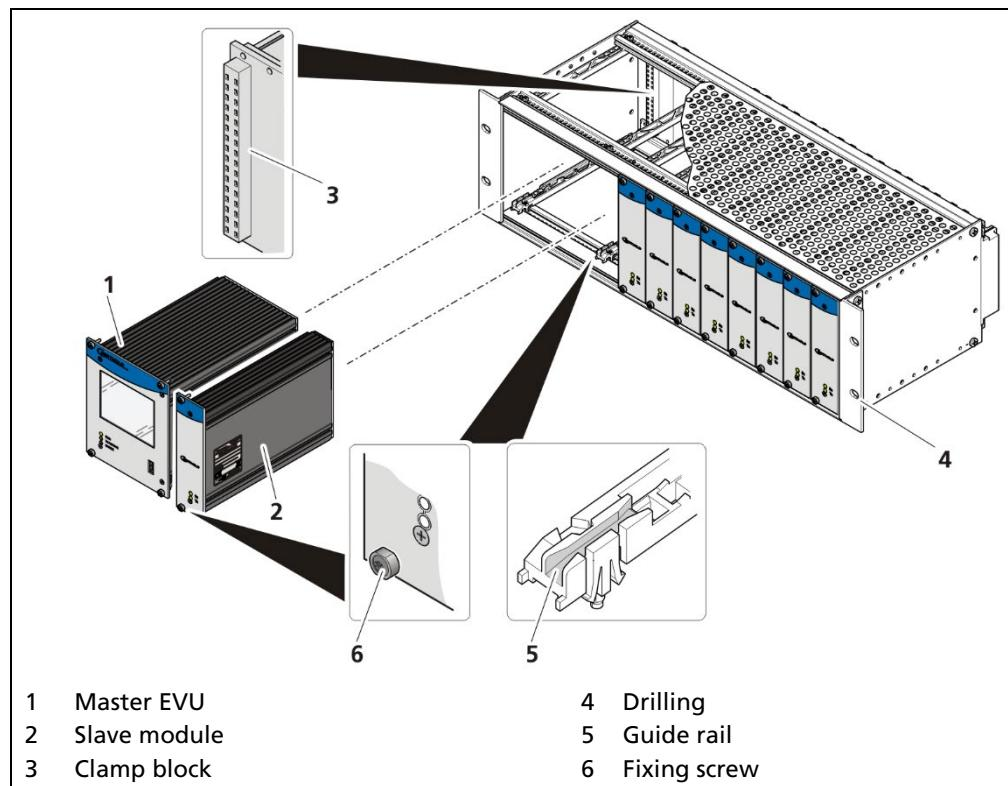
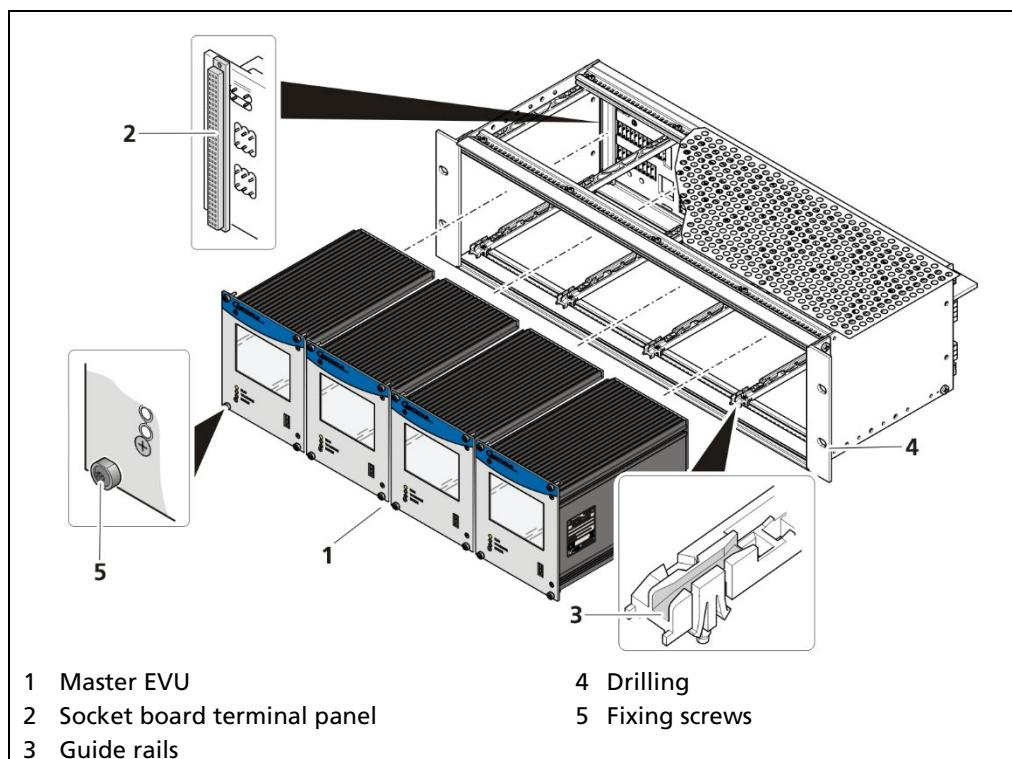

Fig. 15 19" subrack with clamp block (Ex.: 1x Master, 9xSlave)
Fig. 16 19" subrack with terminal panel (Ex.: 4x master)
The 19" subrack can be equipped differently, depending on requirements (see chap. 4.3 Installation Variants). The rear clamp blocks (Fig. 15, item 3) or terminal panels (Fig. 16, item 4) are used for the electrical connection.
The subrack is installed in a 19" control cabinet or a control panel (switchboard). The 4 side holes (Fig. 15, item 4) that should be provided with fitting screws are used to fasten the subrack.
The master's EVUs / slave modules must be secured against pulling out by fixing screws (Fig. 15, item 6).
1. Set master EVU / slave module (Fig. 15, item 1, item 2) in the guide rails (Fig. Fig. 15, item 5).
3. Tighten fixing screws (Fig. 15, item 6).
The master's EVUs / slave modules must be secured against pulling out by fixing screws (Fig. 16, item 5).
1. Set master EVU / slave module (Fig. 16, item 1) into the guide rails (Fig. 16, item 3).
2. Carefully slide module into the subrack until the plug connector is inserted into the socket board (Fig. 16, item 2).
3. Tighten fixing screws (Fig. 16, item 5).